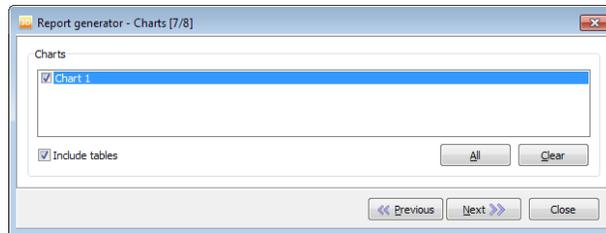

Figure 281: Report generator - Charts
**Step 7:** Select generated charts to be included in the report (Figure 281: Report generator - Charts (on page 426)).